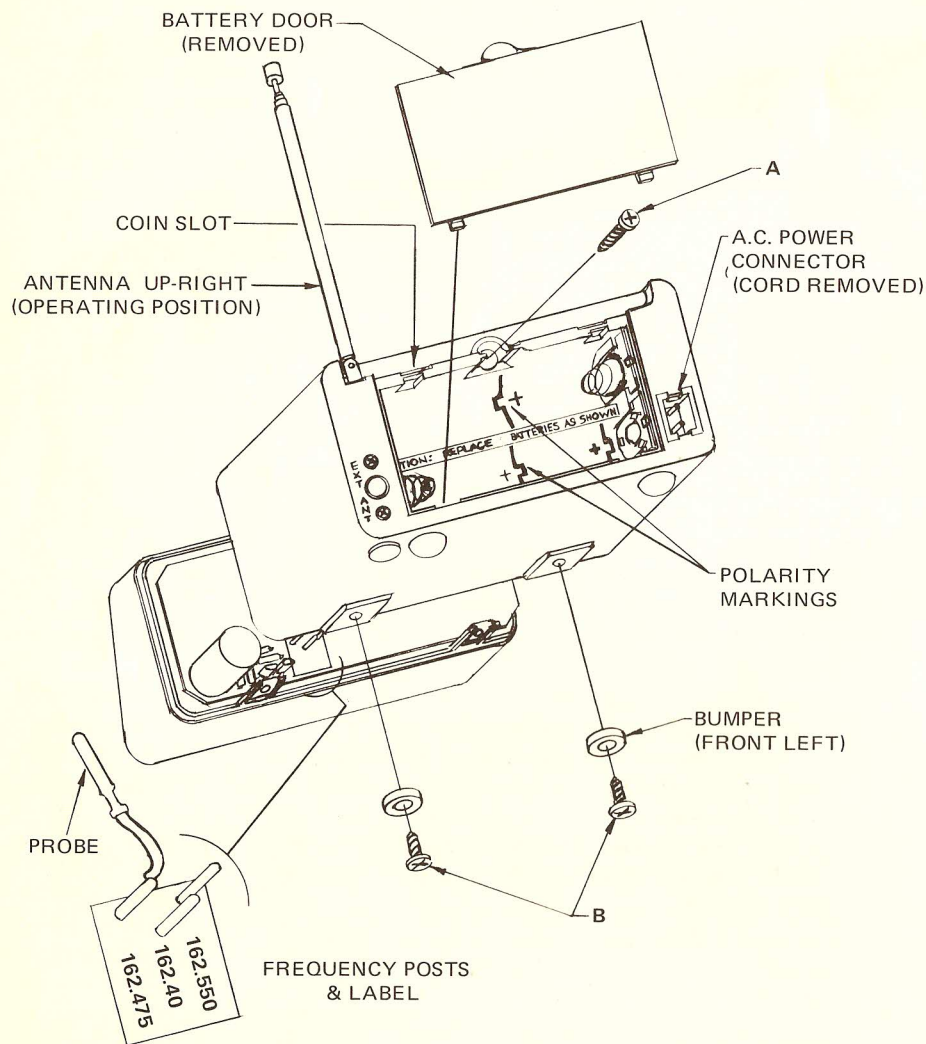

Figure 2
2. Twist a small coin in the two slots under antenna at top of door (Fig. 2) and remove battery compartment door.
3. At the top rear of unit under tab on battery door insert a #2 phillips screw driver with 5" shaft and remove the screw A (Fig. 2).
4. Now turn radio over and remove the two screws B (Fig. 2) that hold the bumper feet in place at the front of the cabinet. Then return radio to upright position. Remove from cabinet by sliding the cabinet away from the front panel.
5. Locate the three posts mounted on the circuit board (just left of bottom center of board Fig. 2). Move the probe to the desired frequency as indicated by the frequency label.